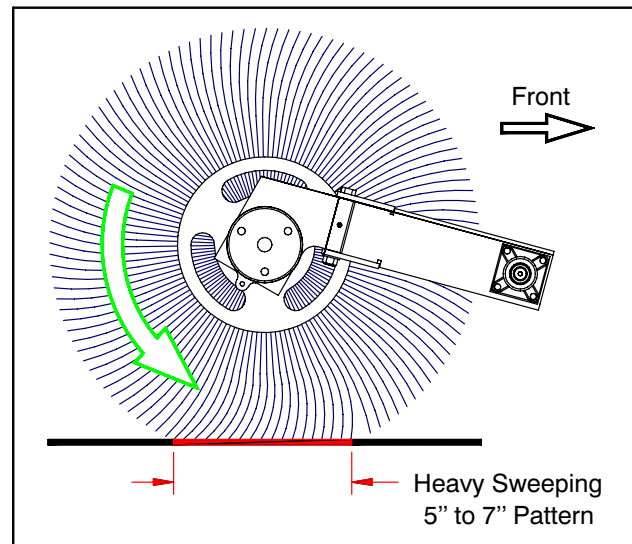

Fig: 3.3 B
5. Measure pattern (Fig: 3.3 A&B).